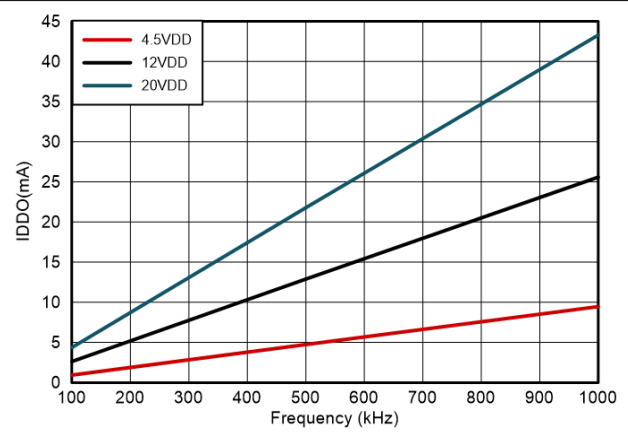

图 6-4. Operating Supply Current (both outputs switching)
- (1) Operation outside the Absolute Maximum Ratings may cause permanent device damage. Absolute Maximum Ratings do not imply functional operation of the device at these or any other conditions beyond those listed under Recommended Operating Conditions. If outside the Recommended Operating Conditions but within the Absolute Maximum Ratings, the device may not be fully functional, and this may affect device reliability, functionality, performance, and shorten the device lifetime.
- (2) All voltages are with respect to GND unless otherwise noted. Currents are positive into, negative out of the specified terminal. See Figure 6.4 of the datasheet for thermal limitations and considerations of packages.
- (3) These devices are sensitive to electrostatic discharge; follow proper device handling procedures.